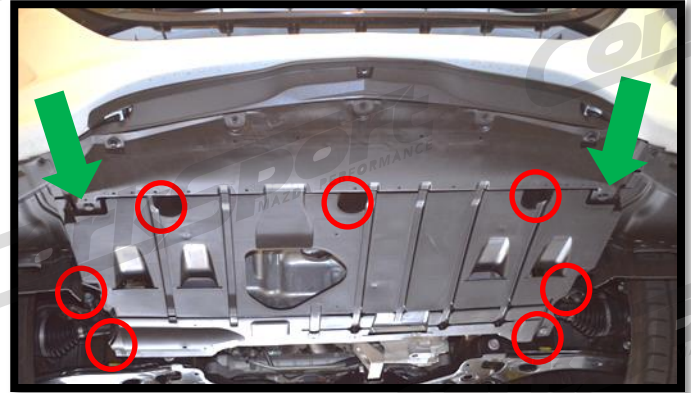

Figure 1a
b) Remove the splash tray. Remove the seven (7) 10mm bolts and pry out the two (2) push clips with a flat blade screw driver (Figure 1a).
- b) Remove the splash tray. Use a 10mm socket wrench w/ short extension to remove the seven (7) bolts (red circles) and pry out the two (2) push clips with a flat blade screw driver (green arrows in Figure 1a).